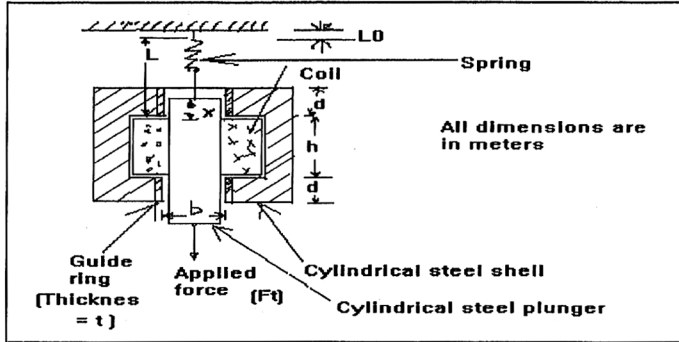

Fig.2
3. Cross section of a cylindrical solenoid magnet is shown in fig.2; which shows the cylindrical plunger of mass ' M ' kg. moves vertically in brass guide rings of thickness ' t ' meter and mean diameter ' b ' meter. The permeability of brass is the same as that of free space. The plunger is supported by a spring whose elastance is ' K ' newtons/m. Its
4. For the electromechanical system shown in **fig.2**, considering linearized incremental dynamic equations of motion of the system operating for incremental motion around a quiescent point, develop the **equivalent circuit** where the mechanical variables and parameters are replaced by electrical variables and parameters: mechanical forces by currents, velocities by voltages, masses by capacitances and spring constants by reciprocal inductances and friction coefficients by conductances.